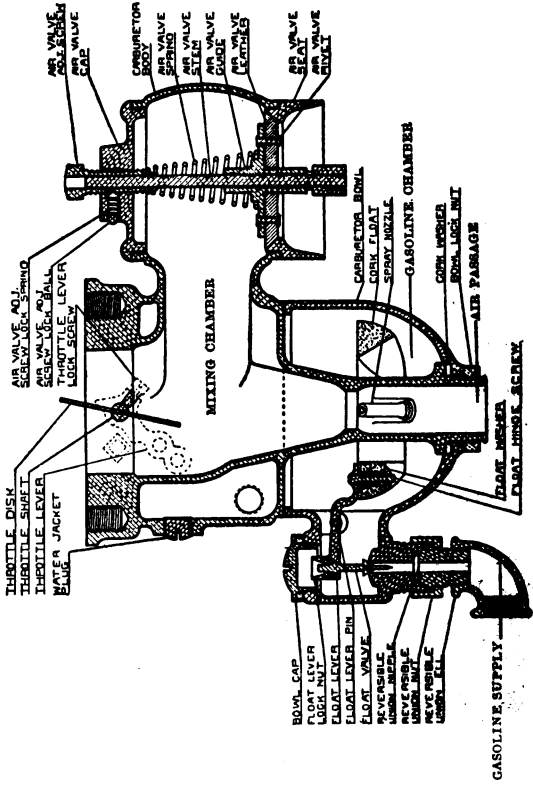

Fig. 26.—Schebler Carburetor.
*The Schebler Carbureter, Model L, Figs. 26 and 26a.* This, one of the most popular and efficient of the high-speed carbureters, is an automobile type carbureter and is used for high powered motor boat engines. The opening marked "gasoline supply" is connected to the gasoline tank by piping. Gasoline enters here and goes to the annular gasoline chamber. It is maintained at a constant level in this chamber by means of a cork float and a float valve connected to this float. The connection is pivoted so that the valve will rise as the float falls. As the gasoline level drops the cork float on its surface drops and this opens the float valve, al-
The leather air valve shown on the right, Fig. 26, compensates for this as follows: At low speeds the valve is kept on its seat by the spring. As the suction increases it overcomes the tension of this spring and the valve will lift each aspiration stroke an amount dependent upon the speed. The throttle disc acts as an ordinary throttle, but attachments on the throttle shaft further regulate the fuel supply for
FIG. 26 a.